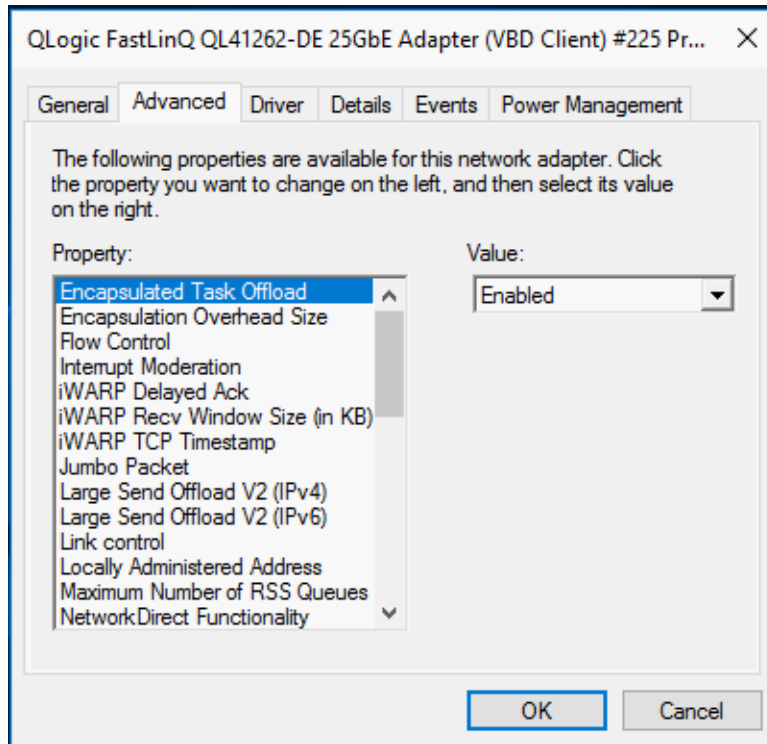

Figure 3-9. Setting Advanced Adapter Properties
3. On the Advanced page (Figure 3-9), select an item under **Property** and then change the **Value** for that item as needed.